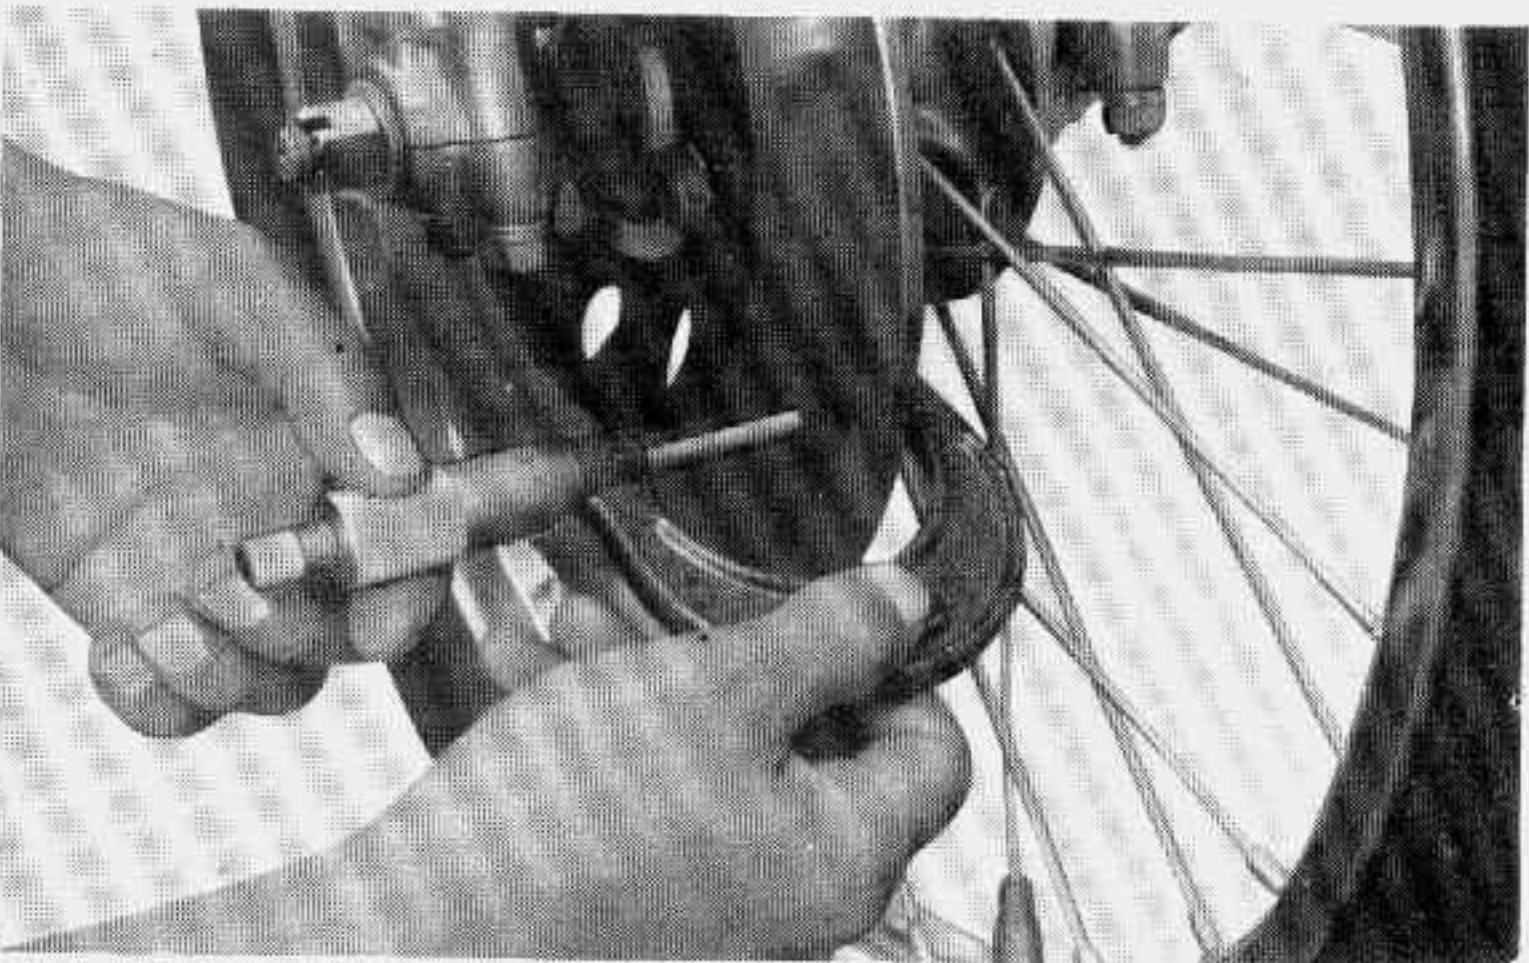

Fig. 8-2-31.
- b) Thickness of the brake disc should be not less than the limit. Measure its worn portion with a micrometer as shown in Fig. 8-2-31 and replace the brake disc if the thickness is less than the limit.